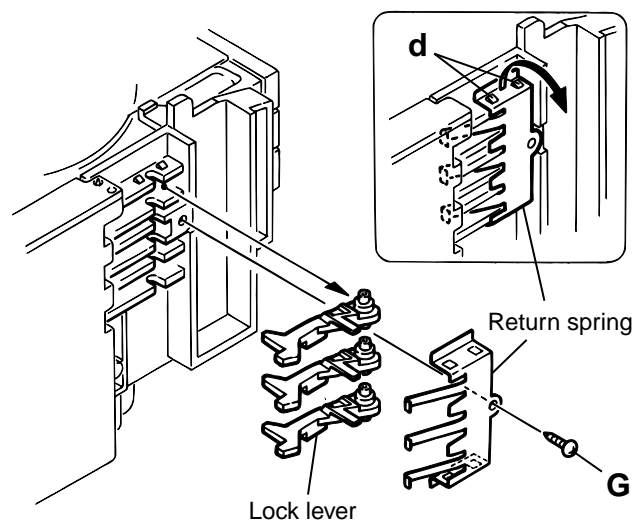

Fig.4
9. From the left side face of the chassis assembly, remove the one screw **G** retaining both of the return spring and lock lever(See Fig. 4).
- 10.By removing the pawl at the section "d" fixing the return spring, dismount the return spring(See Fig.4).
11. Remove the three lock levers(See Fig.4).